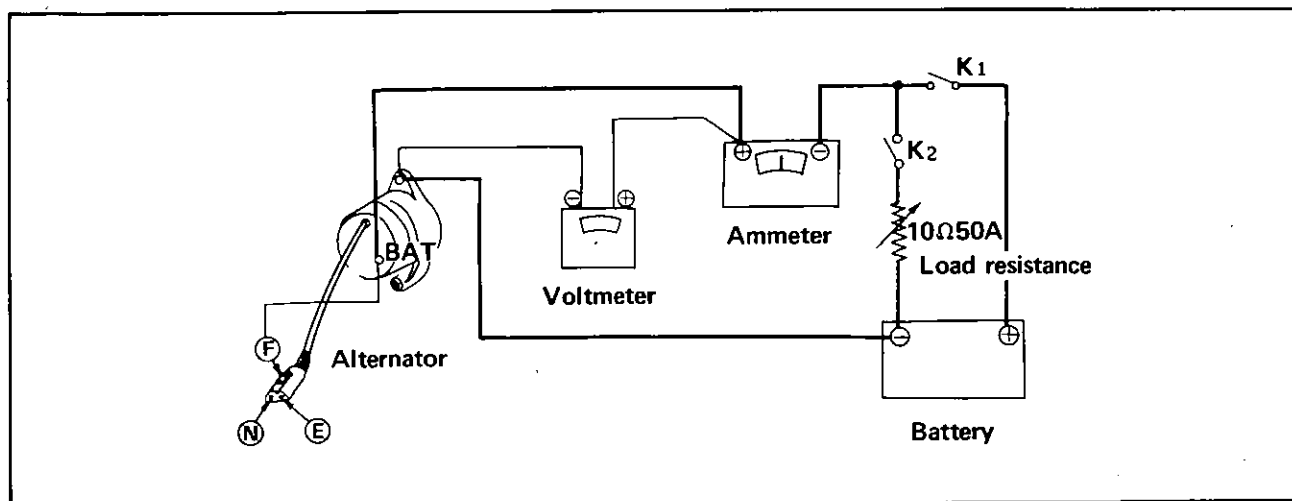

Fig. EE-64 Circuit diagram for output inspection
1. Remove the alternator from the vehicle and connect wiring as shown in Figure EE-64.